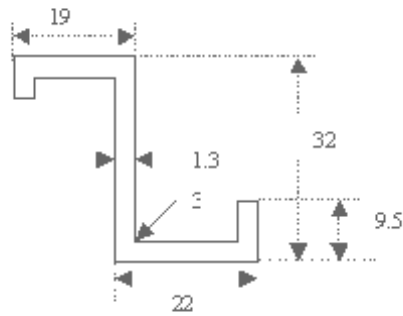

Figure 7
7. "Z" stiffener shown in Figure 7 is one of the several stiffeners riveted to skins of thickness 0.8 mm and of same material as the stiffener. If the length of the panel is 500 mm what will be the column failing stress if end fixity  $c=1.5$ . Use method involving sheet effective widths. (All dimensions are in mm). [16]